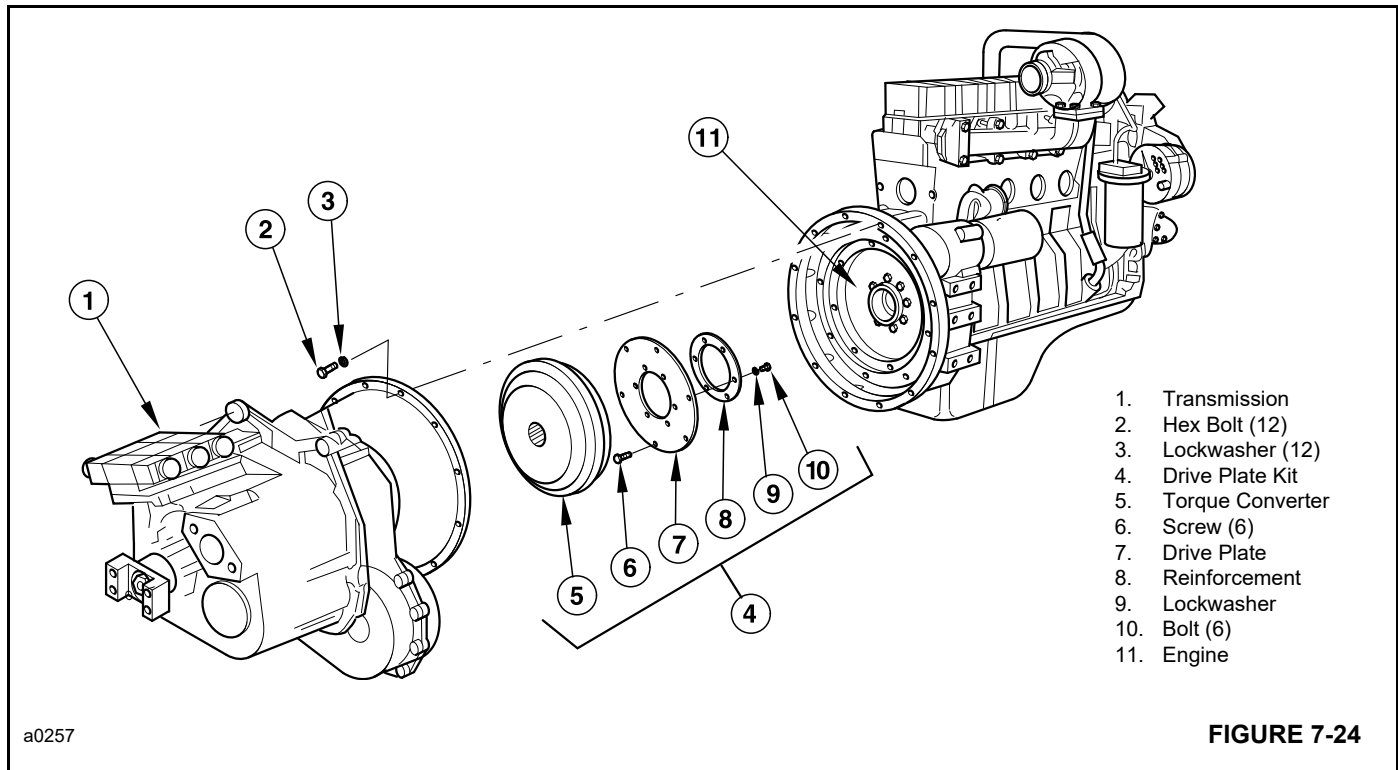

FIGURE 7-24
4. Remove the 12 bolts **2** Figure 7-24 and lockwashers **3** that fasten the transmission/torque converter housing **1** to the engine flywheel housing **11**. Remove the transmission and torque converter assembly **4** and place in a clean, work area where the torque converter can be removed. It is recommended that the transmission be mounted in the service fixture.
1. Assemble the drive plate **7** Figure 7-24 and reinforcing plate **8** to the torque converter **5** using bolts **10** and lockwashers **9**. Apply Loctite® 243 to threads of bolts **10** and tighten to a torque of 40 Nm (30 lb-ft).